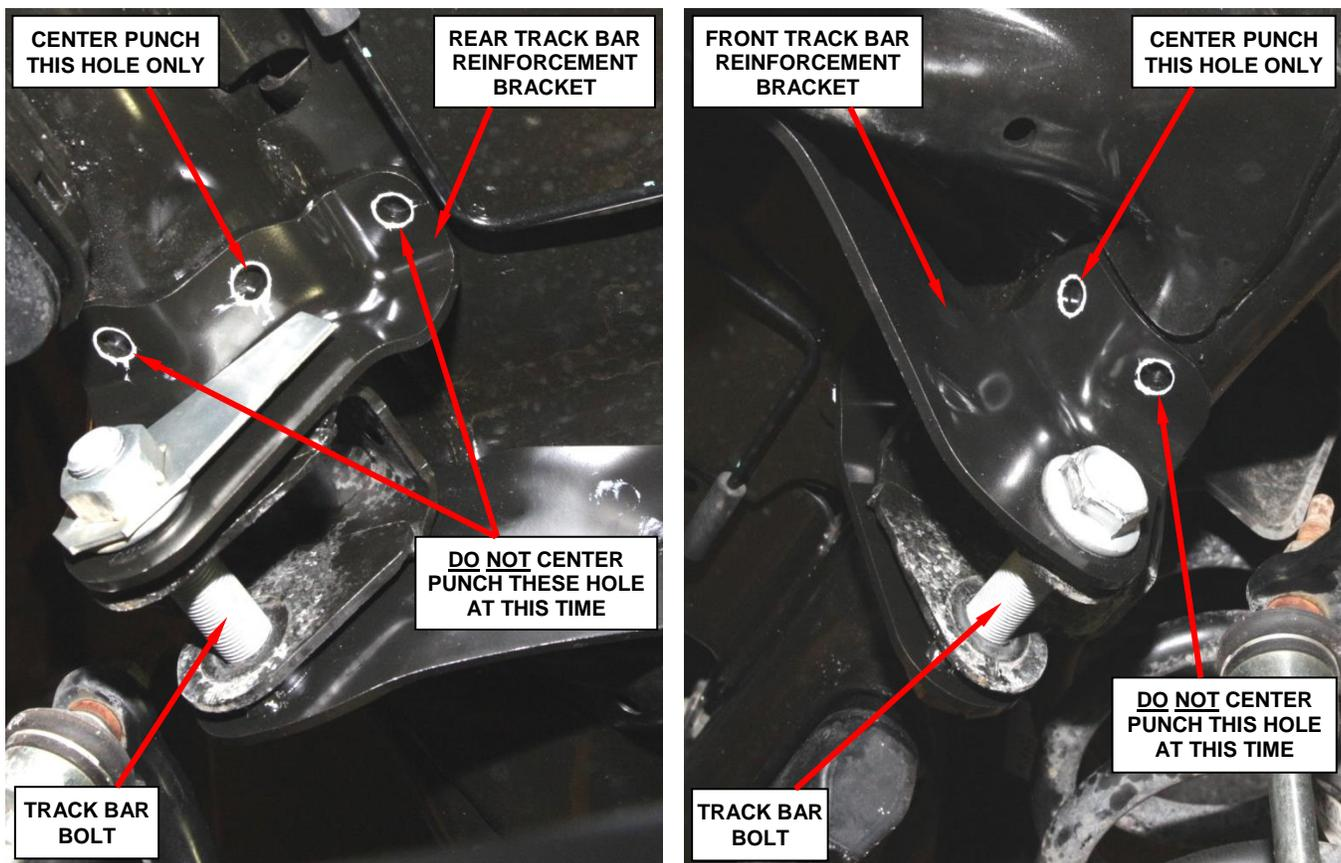

Figure 35 – Center Punch One Hole Location in Each Bracket
6. Using the correct size transfer punch, center punch the middle hole on the rear reinforcement bracket (Figure 35).
7. Using the correct size transfer punch, center punch the top hole on the front reinforcement bracket (Figure 35).